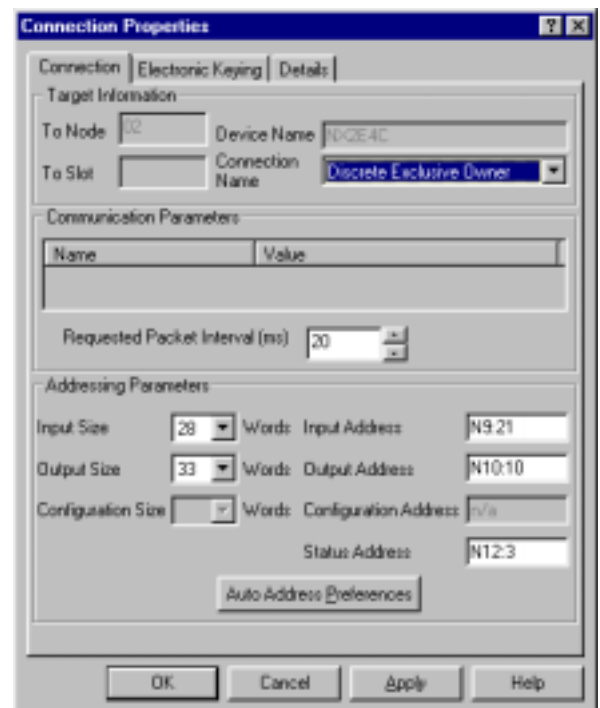

Figure 3.1 Scanlist Configuration Screen
- 7) In the Device Name column, right click on the name of the unit, (NX2E4C by default), and click on **Insert Connection** in the pop-up menu. The *Connection Properties* window appears on the screen. A sample *Connection Properties* window is shown in figure 3.1